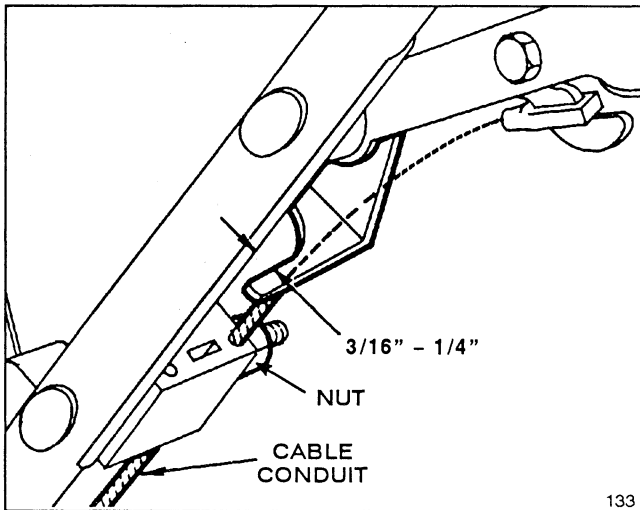

Figure 18
2. CHECK ADJUSTMENT (Fig. 18)—Move control bar toward handle until slack in wire is removed. Gap between brake lever and handle must be 3/16"–1/4". See step 3 for adjustment.
3. ADJUST CABLE CONDUIT—Loosen nut on cable bracket (Fig. 18). Insert 3/16"–1/4" object between brake lever and handle. Pull down on cable conduit until slack is removed. Then tighten nut.